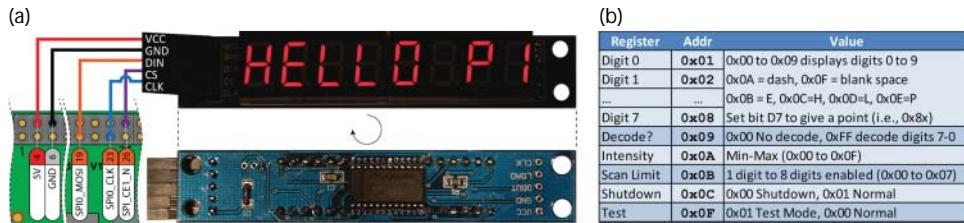

Figure 10-16: (a) The MAX7219 8-digit 7-segment display module, and (b) a summary register table for the MAX7219
The Maxim Integrated MAX7219 is a serially interfaced 8-digit LED display driver that is widely available and built in to very low-cost multi-seven-segment display modules. The module in Figure 10-16(a) (\$2–\$3) is a 5 V 8-digit red LED display that contains the MAX7219 IC, which can be interfaced using SPI. The datasheet for the IC is available at tiny.cc/erpi1008.
The module can be connected to the RPi using its SPI bus, which in this case is connected to the SPI_CE1_N enable pin, as illustrated in Figure 10-16(a). This
In decode mode the module can display eight digits consisting of the numeric values 0–9 (with a point), the letters *H*, *E*, *L*, *P*, a space, and a dash. The decode mode can also be disabled, permitting each of the seven segments to be controlled directly. For example, the following steps that use the summary list of registers in Figure 10-16(b) can be used to test that the module is configured correctly by sending pairs of bytes to the device—the register address and data value to write:
4. Display the words "Hello Pi" (as in Figure 10-16(a)):